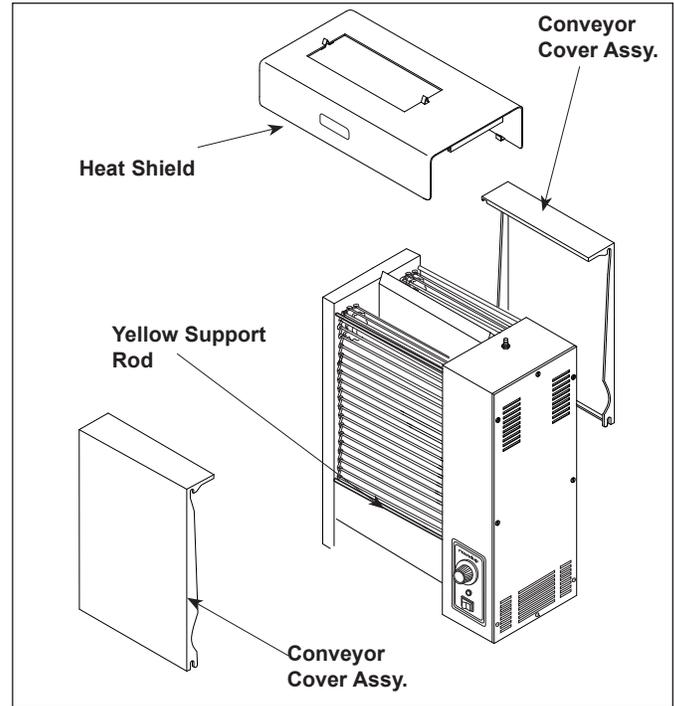

Figure 1. Installing Damper Assy.
1. Remove heat shield along with front and rear conveyor covers (Figure 1).
2. Install the damper Assy. (Figure 1).